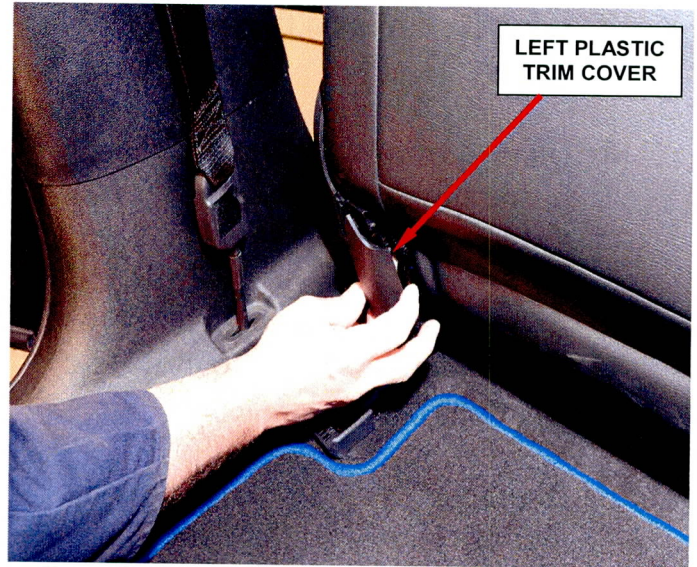

Figure 1 – Plastic Trim Covers
3. Remove and save the right and left plastic trim covers from the back of each front seat (Figure 1).